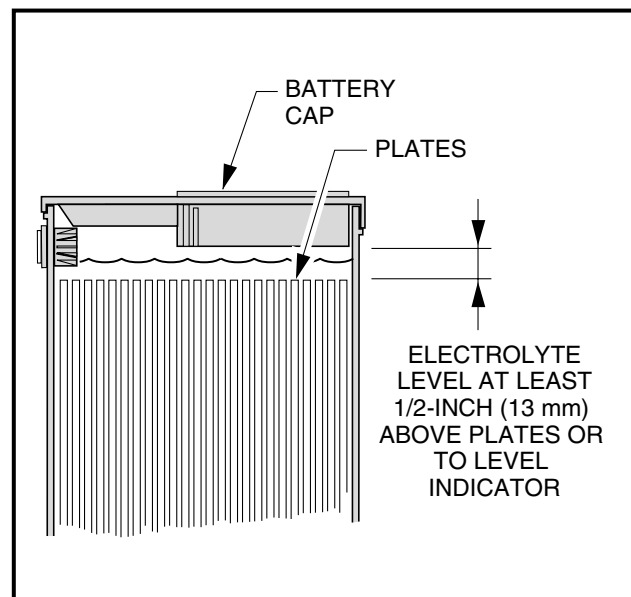

Figure 11-24 Battery Electrolyte Level
1. Be sure that the battery has sufficient water to cover the plates by approximately 1/2-inch (13 mm) and is fully charged prior to beginning the test. If water must be added, recharge the battery before performing the hydrometer test (**Figure 11-24, Page 11-21**).